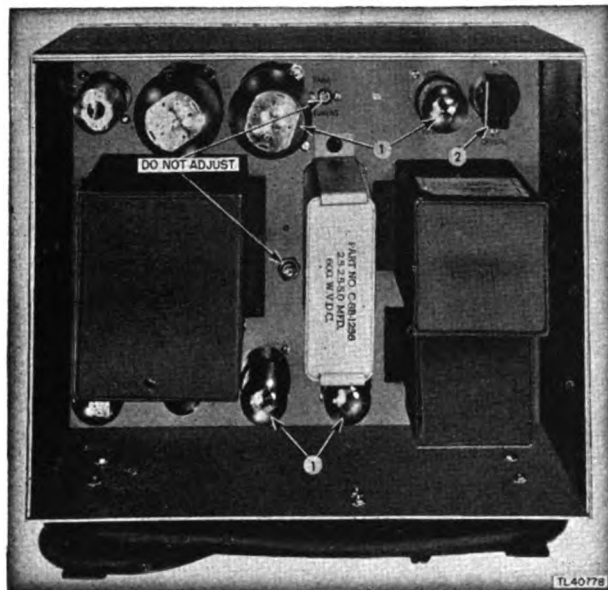

Figure 40. Range Calibrator I-223-A—top view.
ITC. TOP OF CHASSIS (fig. 40).
(1) Check all the tubes① for cleanliness and proper insertion in their sockets.
(2) Check the crystal② for proper insertion in its socket and for corrosion on its pins. Do not handle the crystal unless it is necessary.
(3) Clean the entire top of the chassis with a clean cloth.
*Note:* Do not tamper with the two screw adjustments indicated on figure 40.